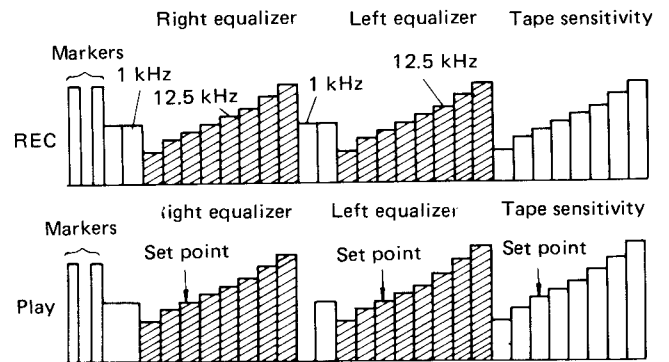
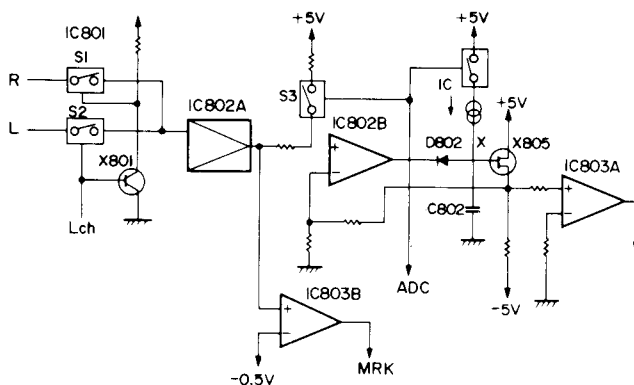
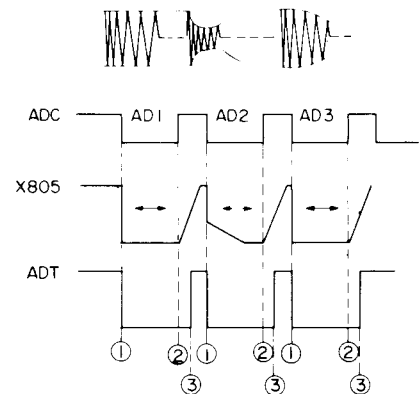

Fig. 5
Fig. 9
Fig. 10
6. The microcomputer detects these coincident steps. At this time, the recorder initiates recording and performs a blank recording for 2.8 sec. Subsequently, the recorder records the markers, and enters the 12.5 kHz signal recording state after recording the 1 kHz reference level, and increasingly varies the equalization level of the right channel by 8 steps every 60 msec. Further, after recording the 1 kHz reference signal of the left channel, the recorder increasingly varies the equalization level. Next, to adjust the tape sensitivity, the recorder increasingly varies the 1 kHz recording level by 8 steps every 60 msec. The difference between the smallest and largest levels is ± 4 dB. (Fig. 5)
In the KD-A66, a 12.5 kHz frequency is selected as the equalizer tuning frequency to improve high band frequency response. In a cassette tape deck with high frequencies, the changes in levels such as are caused by dropout, etc. are enlarged due to the base material of the cassette tape and/or the wound state of the cassette tape. If the optimum state is decided by the reproduction level such as in the B.E.S.T. system, this level change causes incorrect setting of the respective values. To avoid this problem in the KD-A66, a peak hold A/D converter has been developed by the combination of a peak hold circuit and a charge/discharge circuit. The peak hold A/D converting circuit permits stable level detection even against high frequency dropout. Block diagram is shown in Fig. 9 and timing chart in Fig. 10.
The microcomputer measures the time from when the 40 msec peak hold operation is completed to when the above voltage exceeds 0V, to measure the signal level. Fig. 10 is the timing chart. Here the input signal is subject to peak holding during the 40 msec period and the constant current discharge is performed and the state of 0V excess is shown. AD1 is a normal signal, but this indicates that stable measuring is possible should level change (decrease) occur halfway as in AD2 and AD3.
After the input signal is amplified by IC802A in Fig. 9, it is compared with -0.5V of IC803B in Fig. 5.